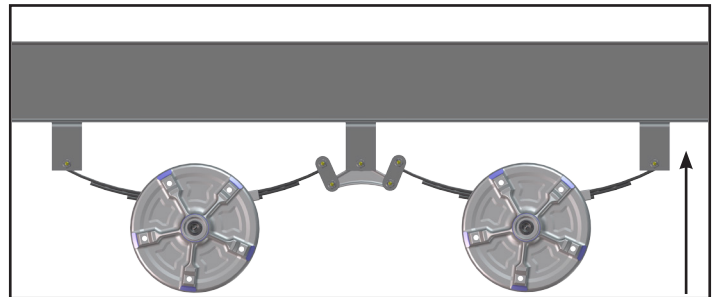

Fig.1
2. After safely raising the coach to a level that ensures the tires are off the ground, properly position jack stands to support the coach (**Fig. 1**).